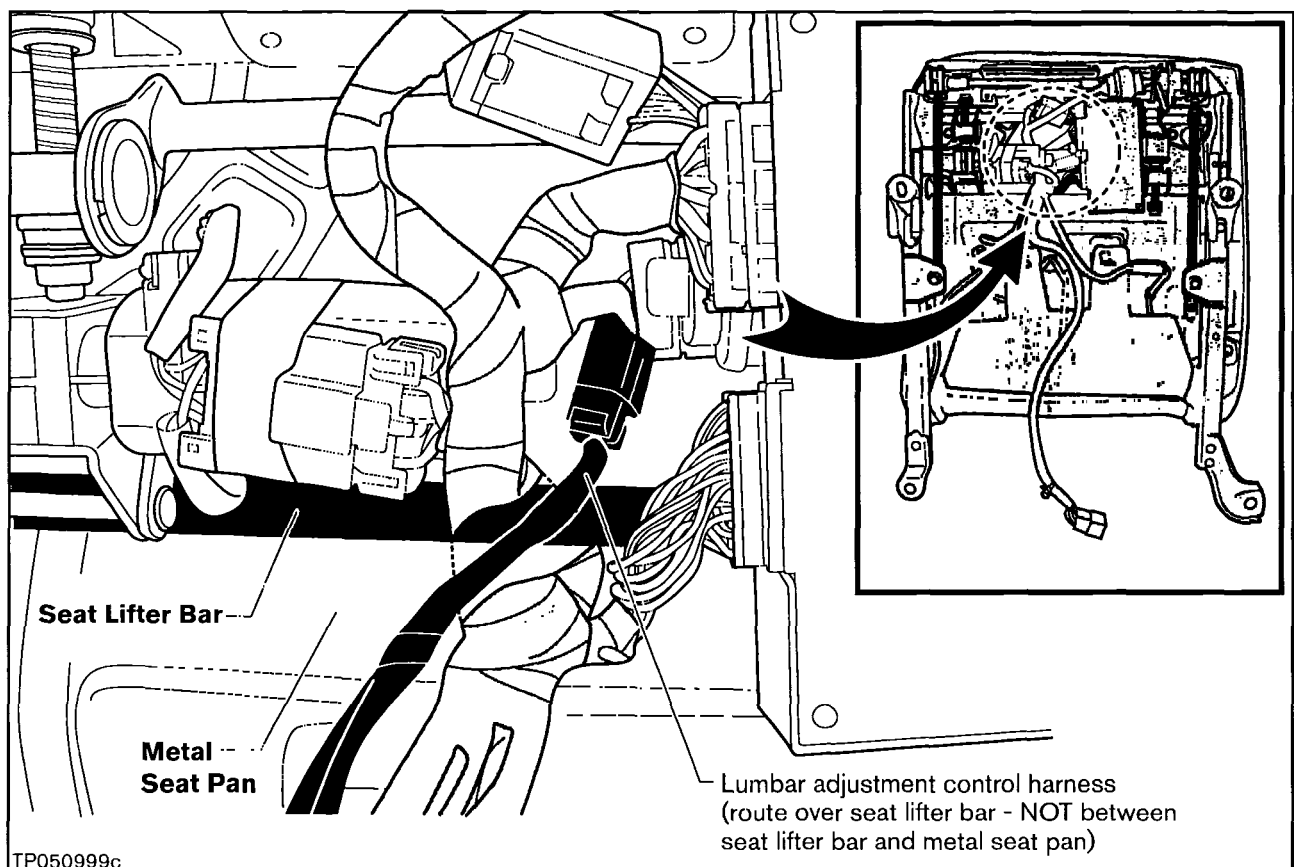

Figure 11
- The lumbar adjustment control harness is reconnected and routed as shown in Figure 11.